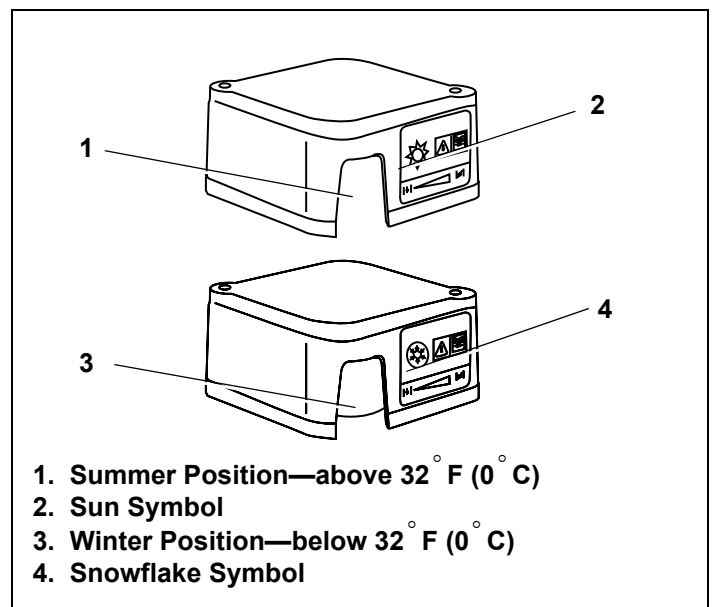

Figure 47. Air Cleaner Cover Positions
3. Rotate air cleaner cover in “WINTER” position shown. See Figure 47.
3. Rotate air cleaner cover in “SUMMER” position shown. See Figure 47.